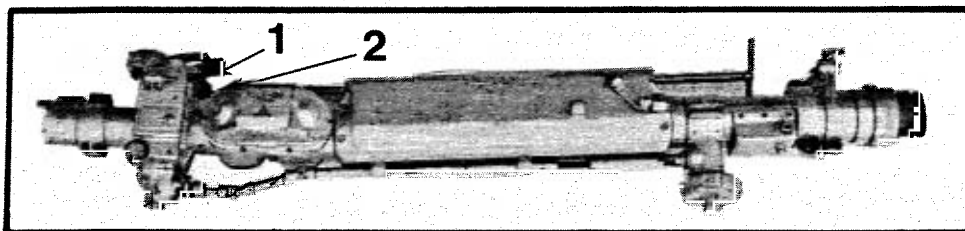

Fig. 3-107. TSh2B-4lu Telescope
(8) If the main aiming point is off-center, take the adjusting wrench and rotate the azimuth adjusting screw first until the main aiming point is aligned with the sighting object (Fig. 3-107). Then, to adjust for elevation, rotate the range knob to place the main aiming point on the sighting object. Rotate the elevating adjusting screw with the adjusting wrench until the range line is in alignment with the range scale zeros (Fig. 3-107).